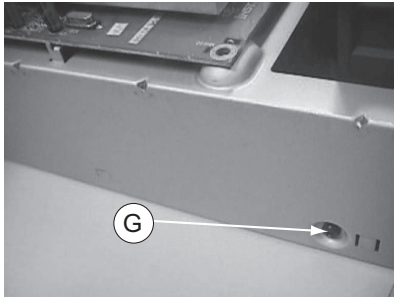

Figure 7
- 3) Loosen 1 screw "G" as shown in figure 7 to remove the bracket.